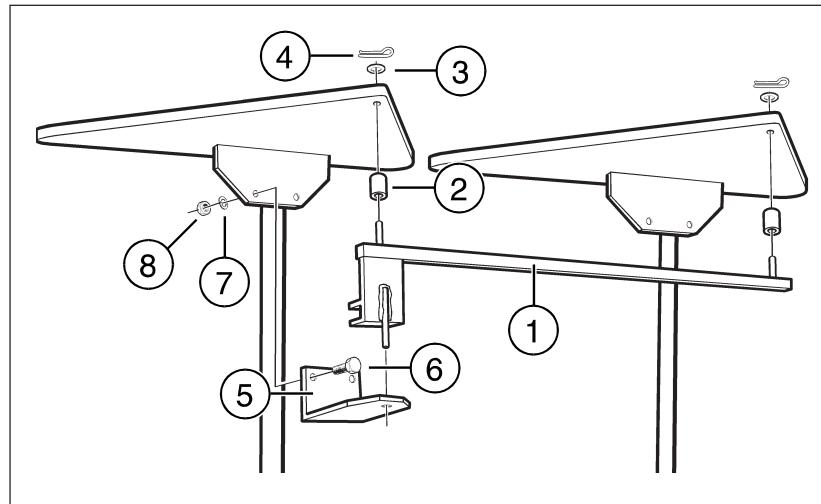

Figure 31: Drive Bar installation
Step 29: For this procedure, use a step ladder with the rack upright. **Do not use the rack frame as a ladder.** Install the drive bar assembly (Item 1) using Item 2, 3 and 4. Install the cylinder support (Item 5) using Items 6, 7 and 8. Keep the cylinder support at the outer end of the drive bar support pin to avoid interference with the drive bar (Figure 31).